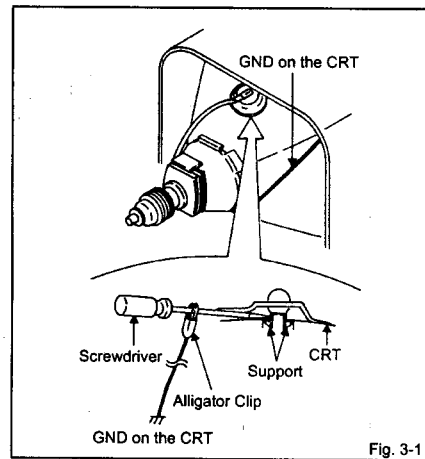

Fig. 3-1
- Follow the steps as follows to discharge the Anode Cap. (Refer to Fig. 3-1.)